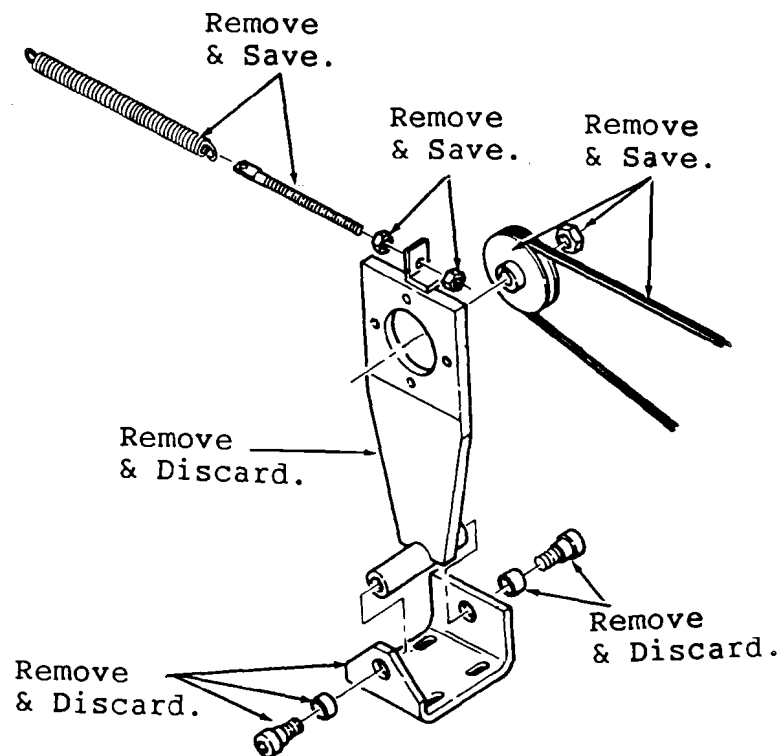

Fig. 1 - REMOVAL OF VACUUM FAN BRACKET 31619
1. Remove the spring, eyebolt, nuts, and vacuum fan drive sheave. Save for later use. See Fig. 1.